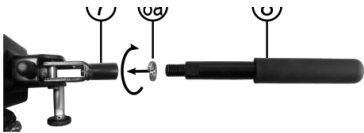

Figure 7: Mounting the tension lever
Fit the spring washer (8a) onto the thread of the tension lever (8). Screw the tension lever into the tension lever mount (7) of the quick closure, Figure 7. Screw the tension lever (8) into the tension lever mount (7) of the quick closure. Turn the thread fully into the holder and tighten the tension lever extension using a wrench (the tension lever has a spanner flat with a key width of 17, see Figure 8).